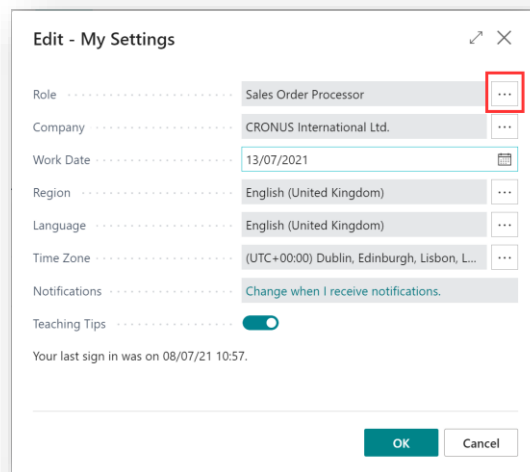

Figure 3-5
2. In the **My Settings** page, on the **Role** field, select the **AssistEdit** icon (Figure 3-5).